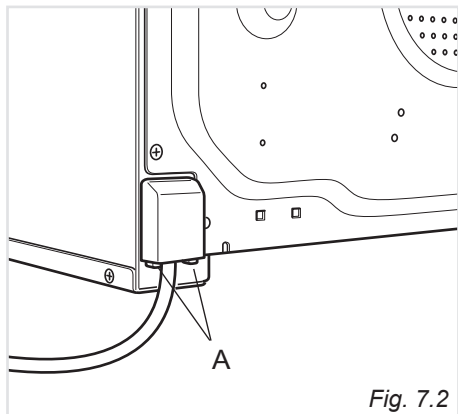

Fig. 7.2
- Unhook the terminal board cover by inserting a screwdriver into the two hooks “A” (fig. 7.2).